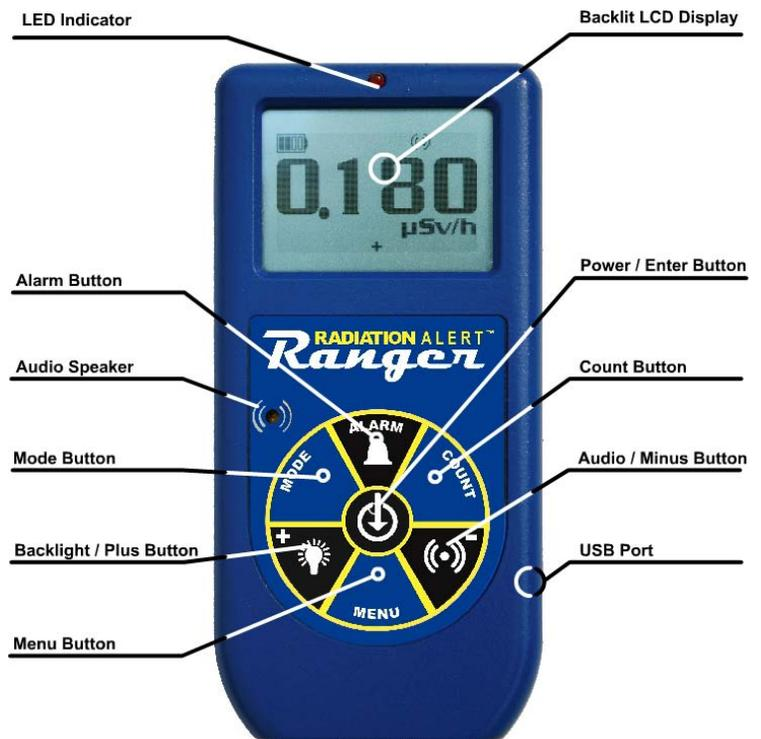

Figure 2(2)
The MODE button (*Figure 2 (2)*) is used to select from the available units of measurement.